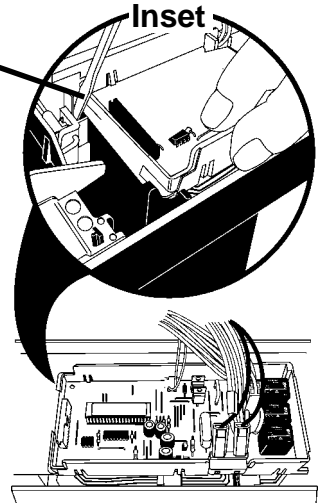

Fig. 3-3
2. Use a flat bladed screwdriver to depress the holding tabs at the left end of the control board assembly while pulling up. (Fig. 3-3, Inset)